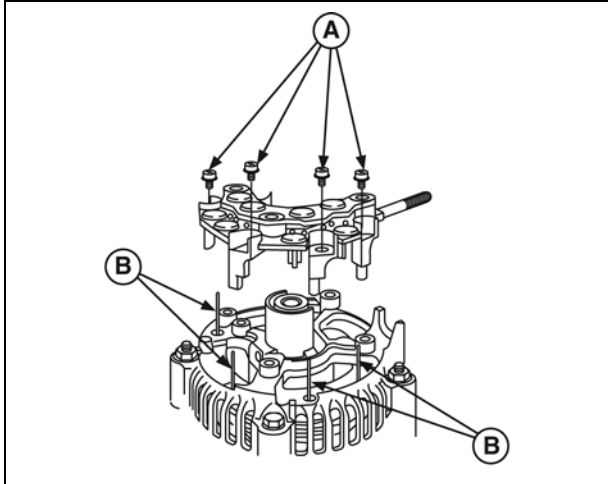

Figure 24
9. Remove two nuts and two thru bolts (A, Figure 24).